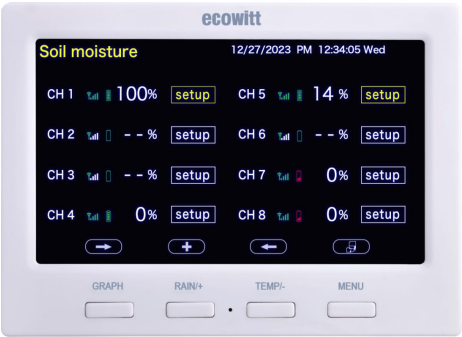

Figure 37: Real-time data on HP3500
- View soil moisture data in real-time on the Display, like the Figure 37.